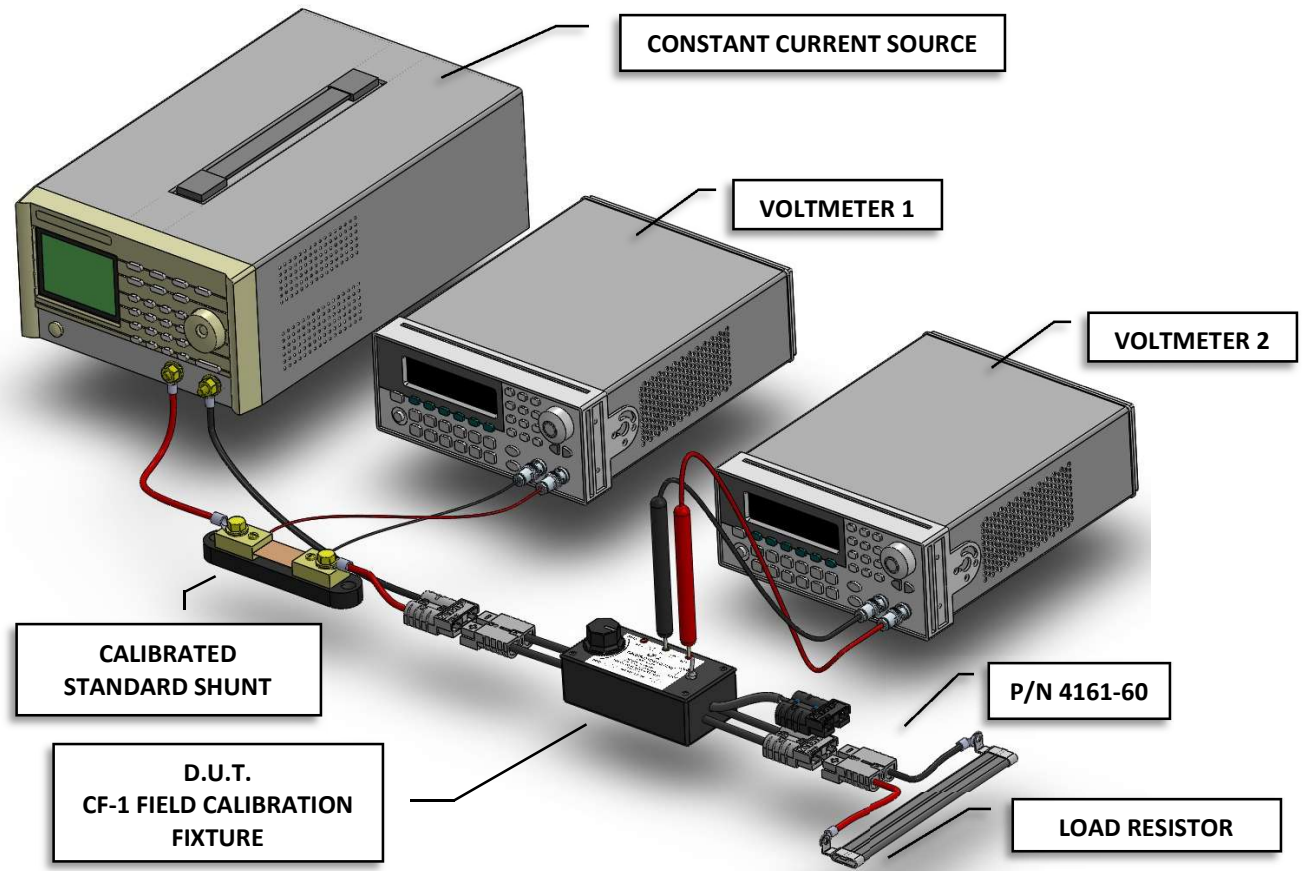

Figure 5
1. Connect the Calibrated Standard Shunt to the positive output of the adjustable constant current source following the shunts manufacturer's connection guidelines to minimize connection generated errors. See Figure 5
- See figure 5. Set the voltmeter 1 to read DC millivolts.